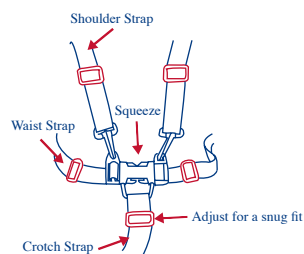

Fig. 17a
- Carefully place the child in the stroller seat and bring the safety harness around the child's waist and over the shoulders. Place the crotch strap between the child's legs. Insert the male end of each shoulder/waist belt into the buckle on the crotch strap. Tighten the harness to be snug around the child's waist and over the child's shoulders Please see figure 17a.